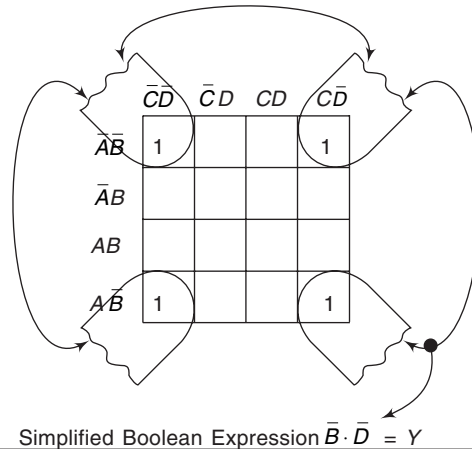

Fig. 6.77 Solution for Problem 35.
35. The K-map is considered to be a ball. In this way, the 1's at the four corners can be enclosed in a single loop. (See Fig. 6.77).